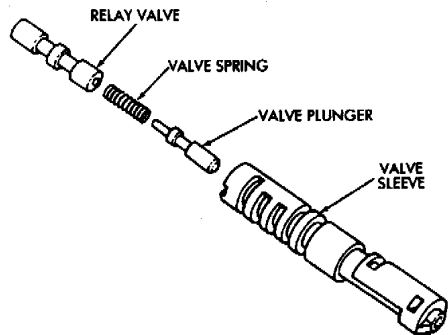

Fig. 9 Lockup Relay Valve Components
(9) Remove lock-up relay valve, spring and plunger from valve sleeve (Fig. 9).
(7) Assemble lock-up relay valve. Install spring and plunger in valve sleeve (Fig. 9). Then install assembled valve in sleeve.